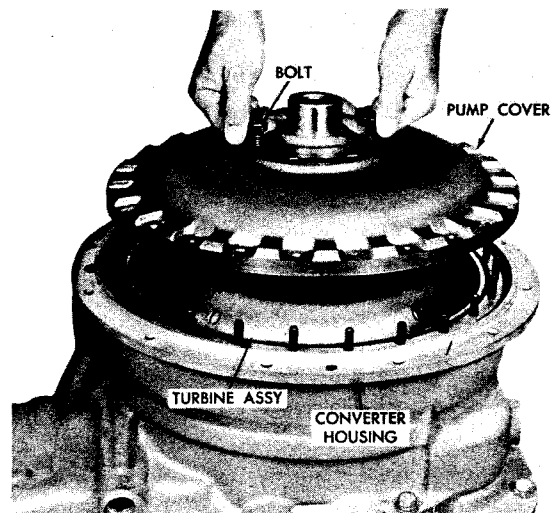

Fig. V-11. Removing torque converter cover
(4) Install two bolts in the cover holes 180° apart and using these as pullers, remove the cover and ball bearing (fig. V-11). Do not remove the ball bearing unless necessary for replacement. If necessary to replace, drive on the outer race to remove.